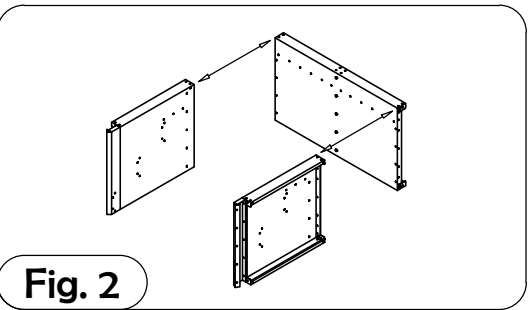

Fig. 2
2. Bolt left and right side stair panels to the left and right stair fillers (Fig. 2).
2. Bolt left and right side stair panel assemblies to the back stair panel (Fig. 2). For stair units larger than 8', multiple back panels will be required.